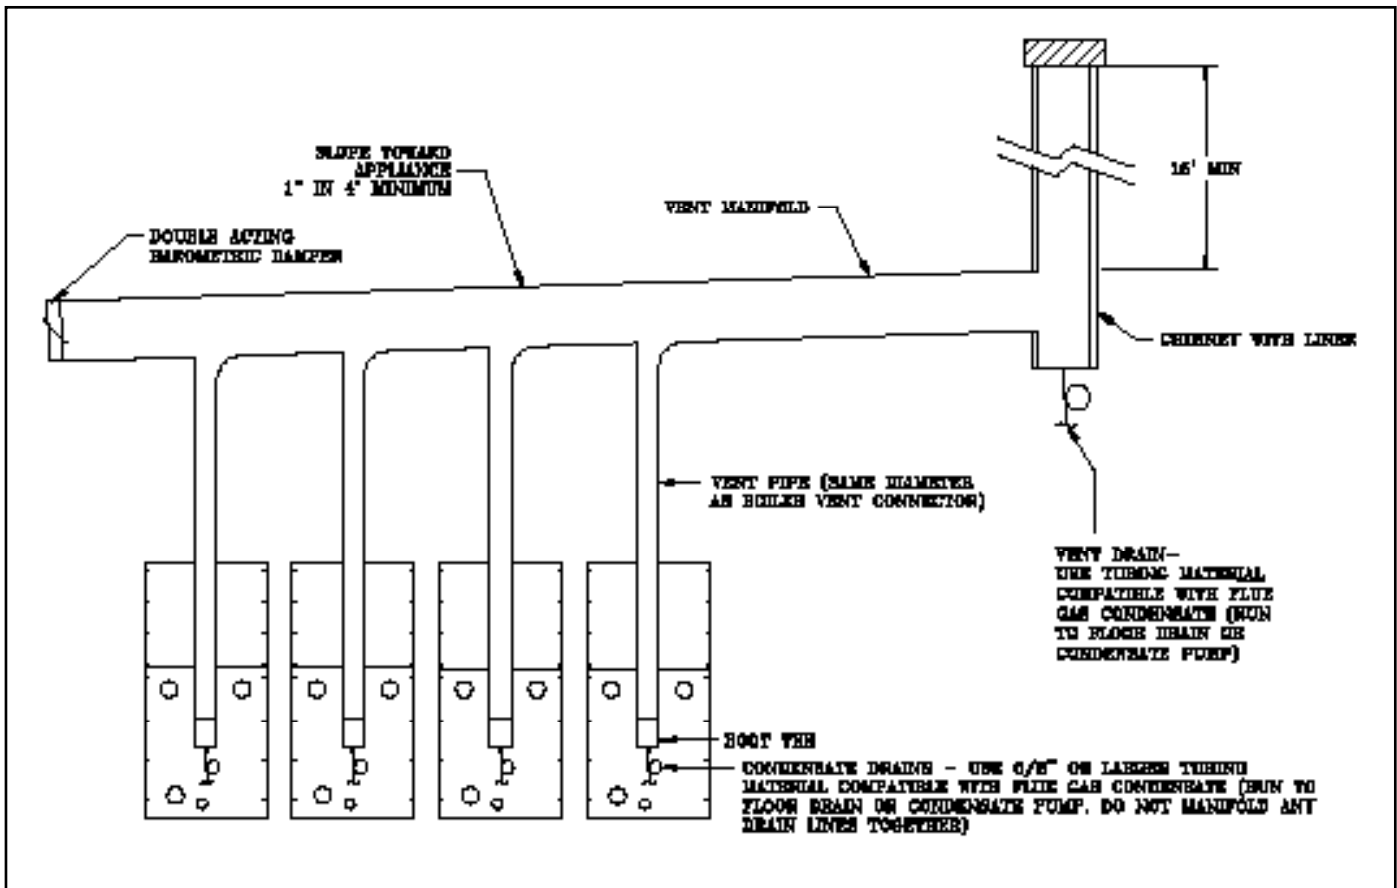

Figure 10: Modular System: Conventional Venting (Negative Pressure)
- Refer to Figure 10 for an example of a typical conventional venting arrangement for modular boilers.
shown in Figure 10).
- vi. Install a condensate drain to collect any condensate that may form in the lined chimney or vertical common vent (refer to figure 10).